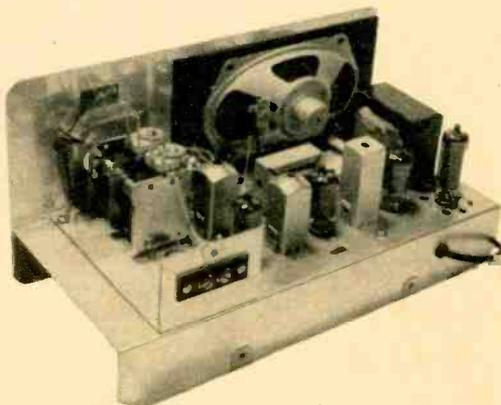

Fig. 1—Top-chassis view of receiver. Front-end is supplied wired and aligned. It's on the chassis on which the antenna terminal strip is also mounted.
Fig. 1—Diagram shows where to install spring-steel extension arm and switch on top of deck. Switch and arm should be cemented to deck plate with epoxy. Note how tape is threaded over plastic post and around the existing tape guide post on machine.
**Construction.** First things to do are determine the best place to mount the switch and spring-steel extension arm. Remove the switch's actuator arm and cement (with epoxy) a piece of spring-steel wire (shaped as shown in Fig. 1) in its place.